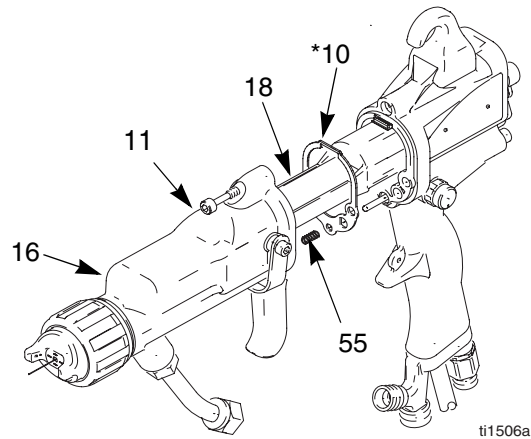

Fig. 16. Barrel Installation
1. Be sure the gasket (10\*) and grounding spring (55) are in place. Make sure the air holes are aligned properly. Replace if damaged. See FIG. 16..
2. Place the barrel (16) over the power supply (18) and onto the gun handle (17).
3. Tighten the three screws (11) oppositely and evenly (about a half turn past snug).